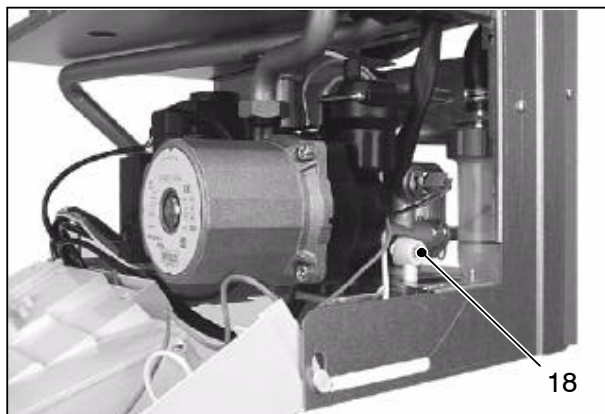

Fig. 9.4
- 2 Open the central heating drain cock (18 in Fig. 9.4).